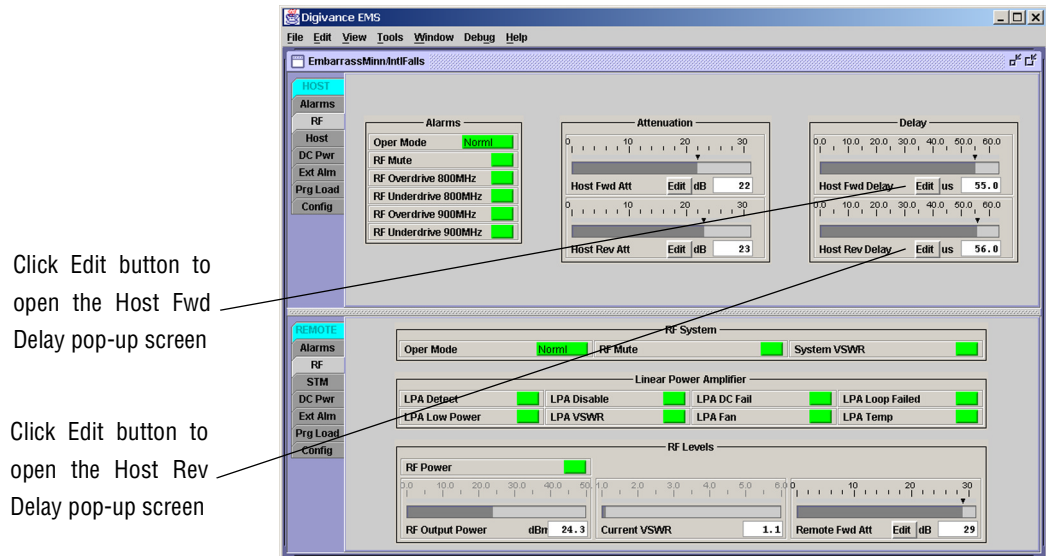
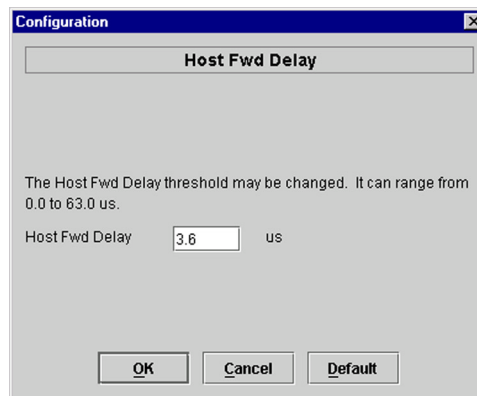

Figure 3-13. Typical HOST RF Display
Figure 3-14. Host Fwd Delay Pop-Up Screen
1. Click on the **HOST RF** tab. The **HOST RF** display will open within the EMS main window as shown in Figure 3-13.
2. Click on the **Host Fwd Delay** field **Edit** button (see Figure 3-13). The **Host Fwd Delay** pop-up screen will open as shown in Figure 3-14.
5. Repeat the process for reverse delay by right-clicking on the appropriate delay section (see Figure 3-13) and then entering the required delay value in the pop-up screen.